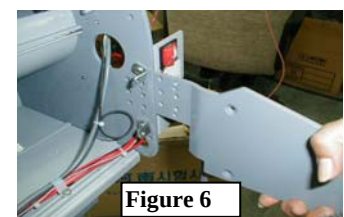

Figure 6
4. Disassemble the power switch bracket and place the left rewinder (included in the option kit). Then, reinstall the power switch bracket (Figure 6).